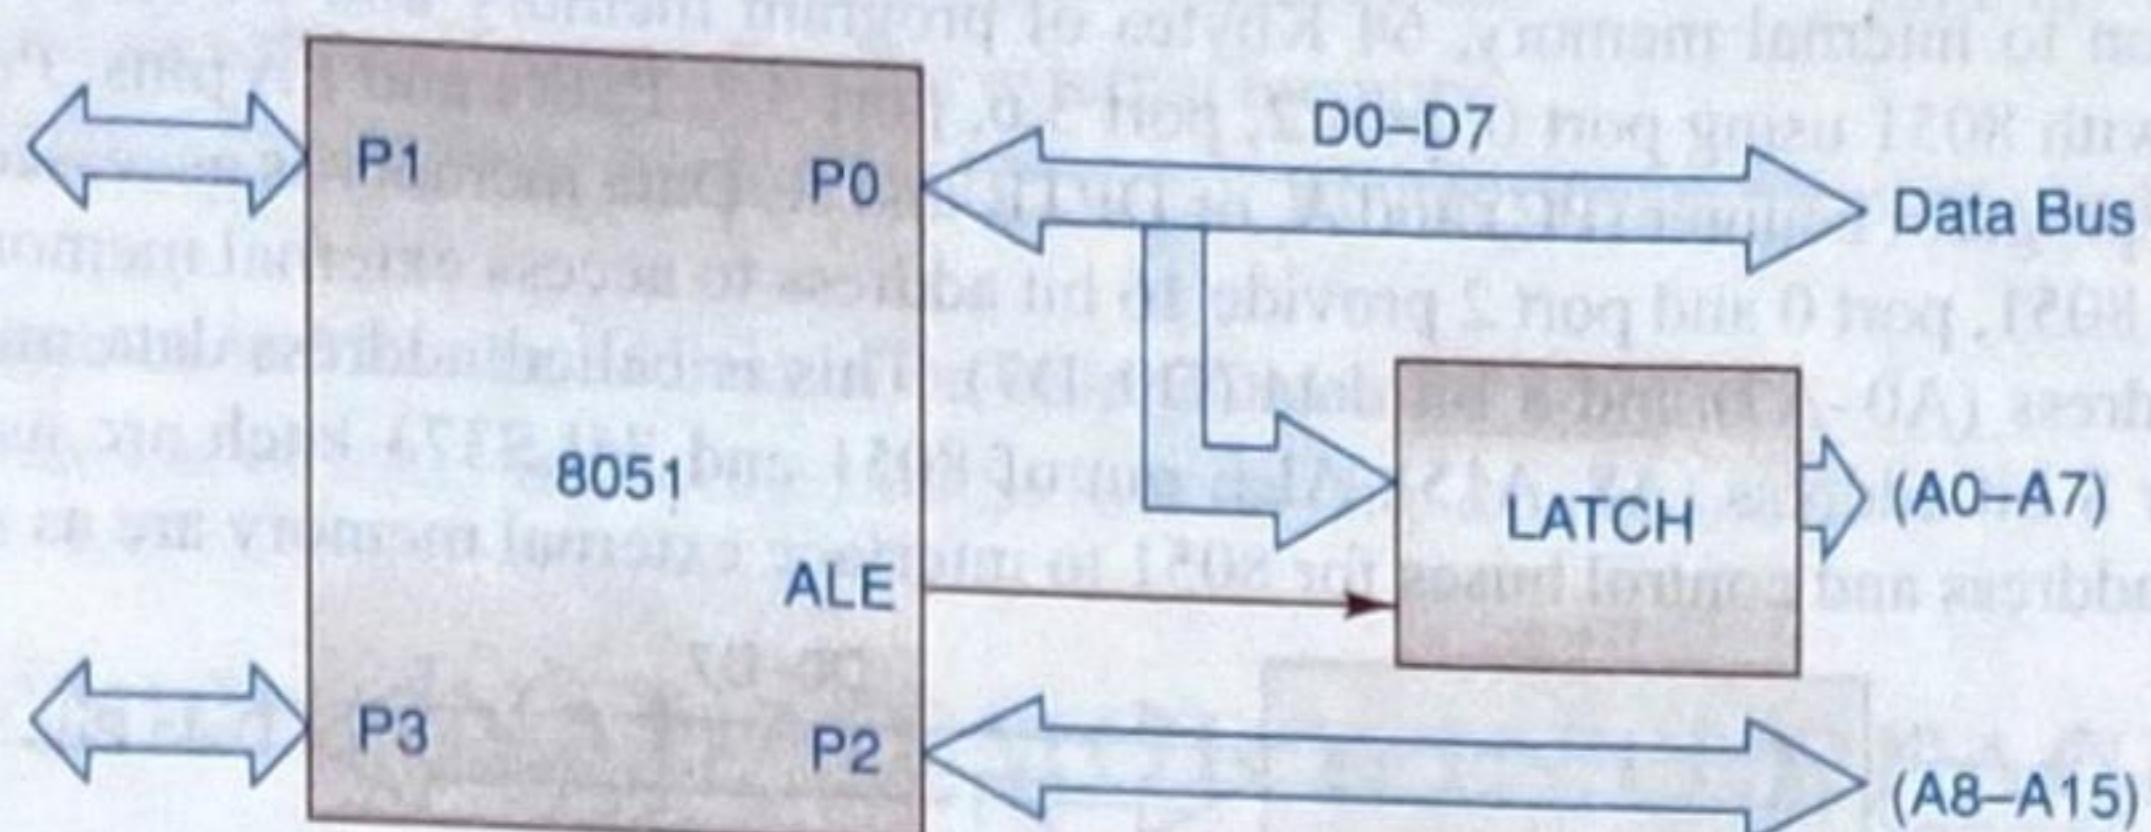

Figure 2.6 Data and address multiplexing using ALE
**ALE (Pin 30)** *for demultiplexing* Address latch enable pin is used to demultiplex AD0-AD7 of port 0. This is a positive going pulse generated every time during external memory access. This signal is used primarily to latch low order address from the multiplexed bus and generate a separate set of eight address lines A0-A7 as shown in Fig. 2.6. *for demultiplexing* *to read off chip ROM content*
**EA (Pin 31)** If external access (EA) pin is held high, it selects internal program memory